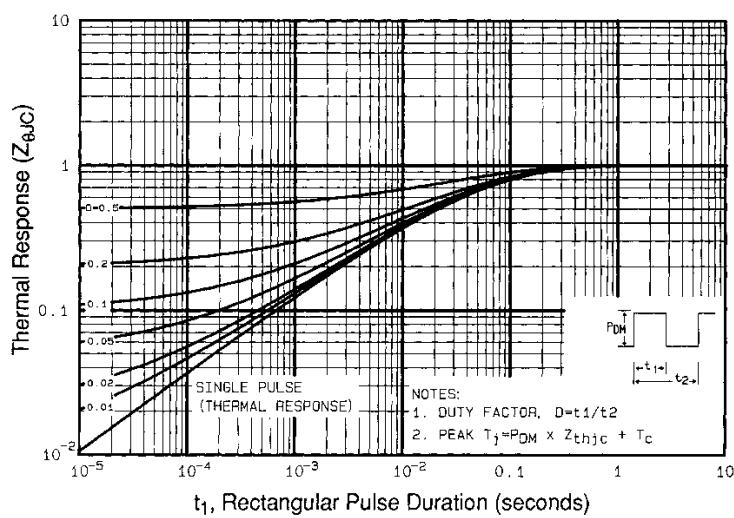

Fig 11. Maximum Effective Transient Thermal Impedance, Junction-to-Case
- ① Repetitive rating; pulse width limited by max. junction temperature. (See fig. 11)
- ② $V_{DD} = 50V$, starting $T_J = 25^\circ\text{C}$, $L = 27\text{mH}$, $R_G = 25\Omega$, $I_{AS} = 6.2\text{A}$. (See Figure 11)
- ③ $I_{SD} \leq 6.2\text{A}$, $dI/dt \leq 80\text{A}/\mu\text{s}$, $V_{DD} \leq V_{(\text{BR})\text{DSS}}$, $T_J \leq 150^\circ\text{C}$
- ④ Pulse width $\leq 300\mu\text{s}$; duty cycle $\leq 2\%$.
- ⑤ Uses IRFBC40 data and test conditions